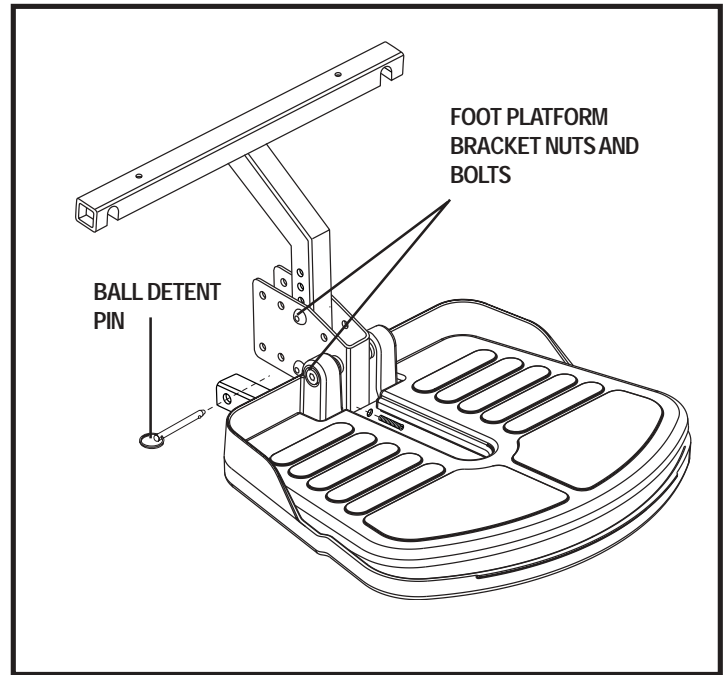

Figure 17. Foot Platform Height/Depth Adjustment
1. Remove the nuts and bolts from the foot platform bracket. See figure 17.